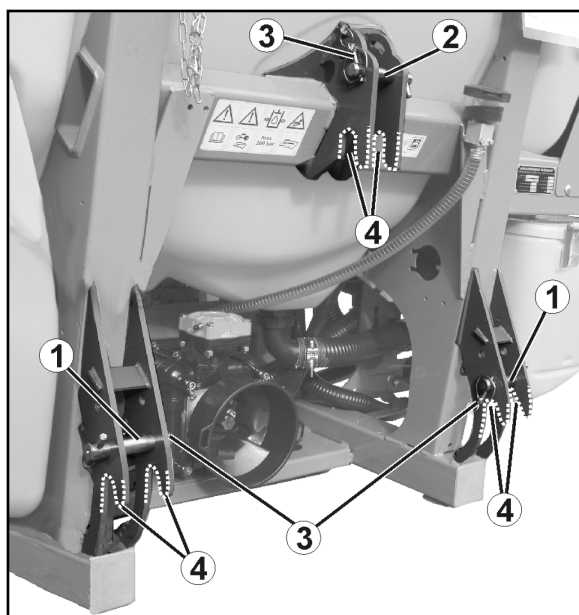

Fig. 24
- back (Fig. 24/1) into the park position.
- forwards (Fig. 24/2) into the transport position.